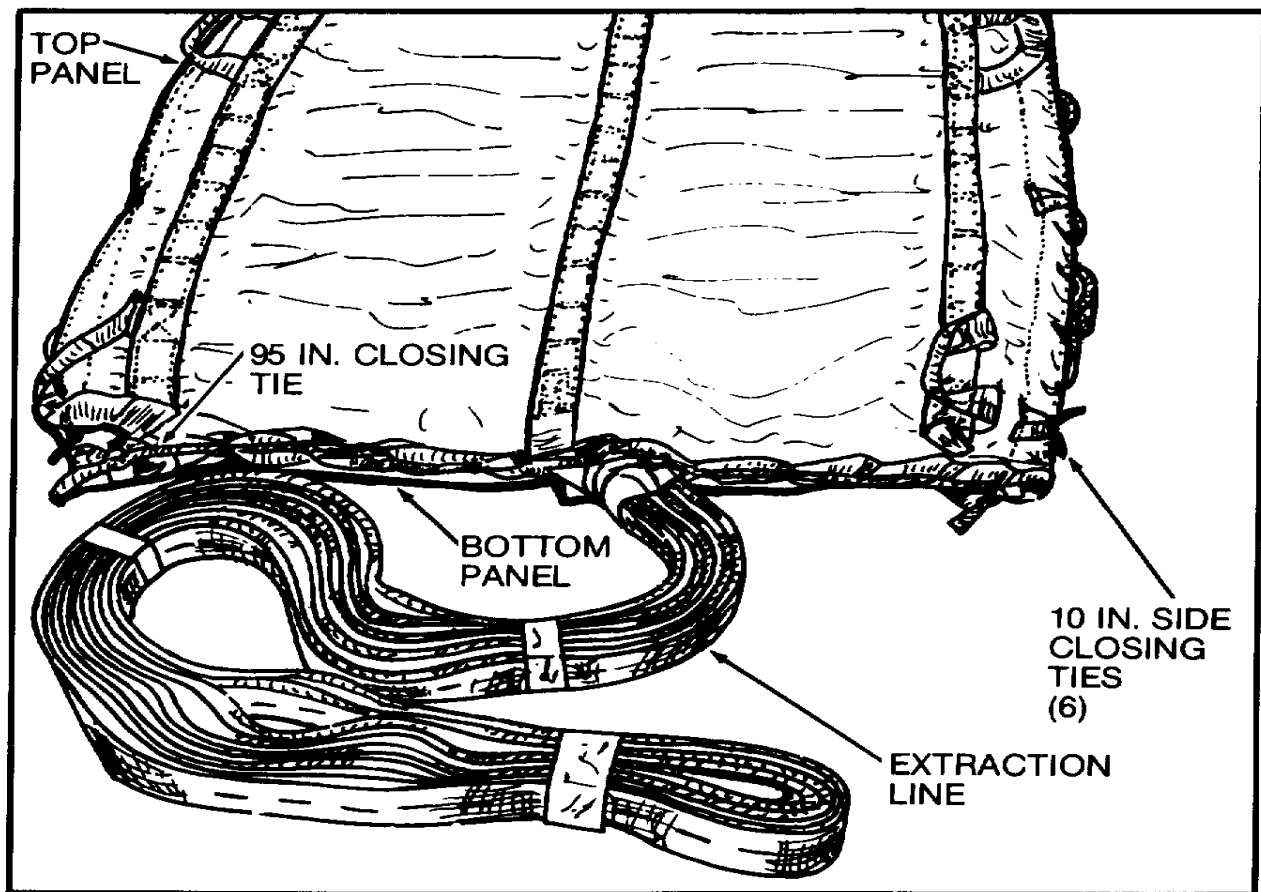

Figure 6. Extraction Line Bag Closed.
- c. Beginning at lower left corner of panels, secure one end of 95-inch nylon webbing bag closing tie to lacing loops located on outside edge of top and bottom panels with three alternating half-hitches and over hand knot in running end (figure 6).